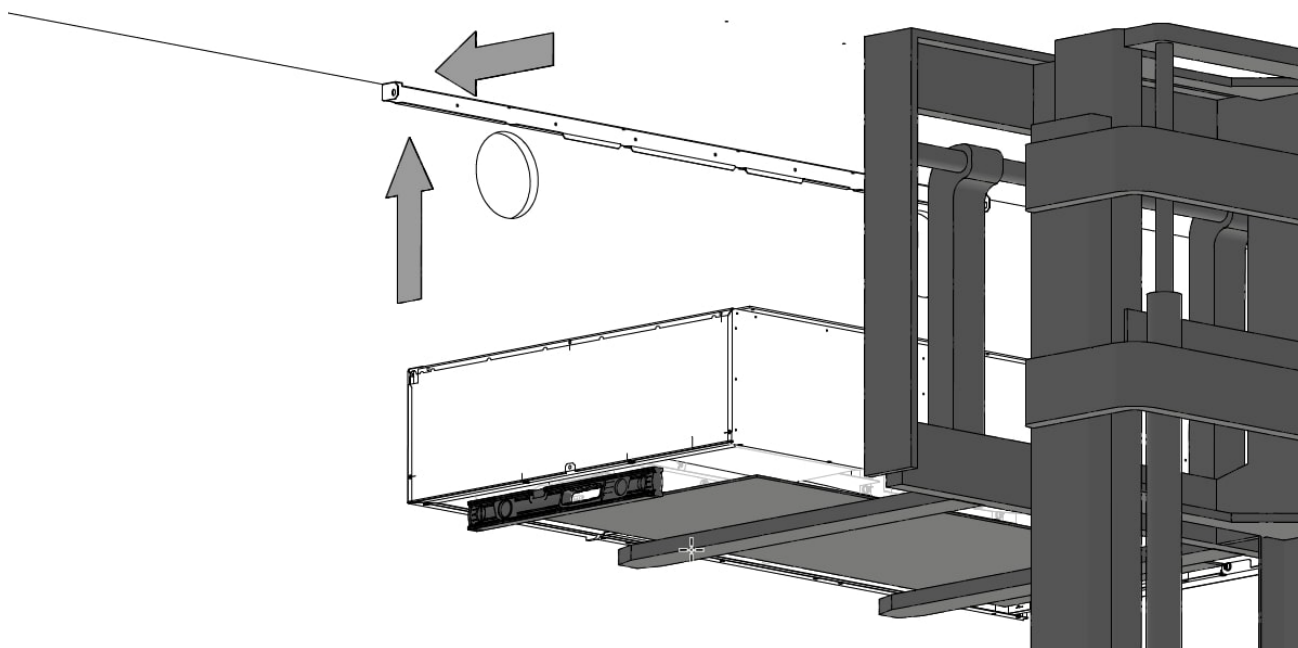

Figure 13: Lift the AMX 4 unit up and onto the bracket
1. Place a protective underlay between the lift and the unit to prevent scratches, see Figure 13 below.